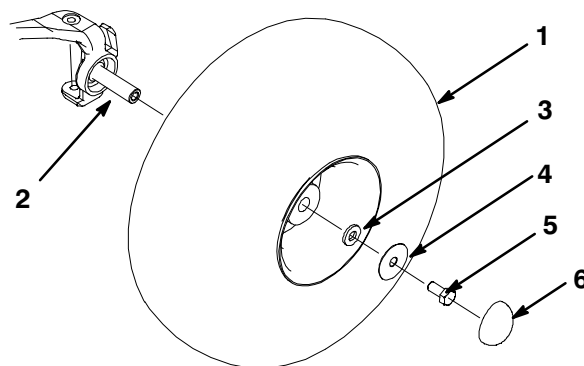

Figure 3
4. Mount the wheels with the previously removed fasteners (Fig. 3) and torque the bolts to 135-165 ft-lb.